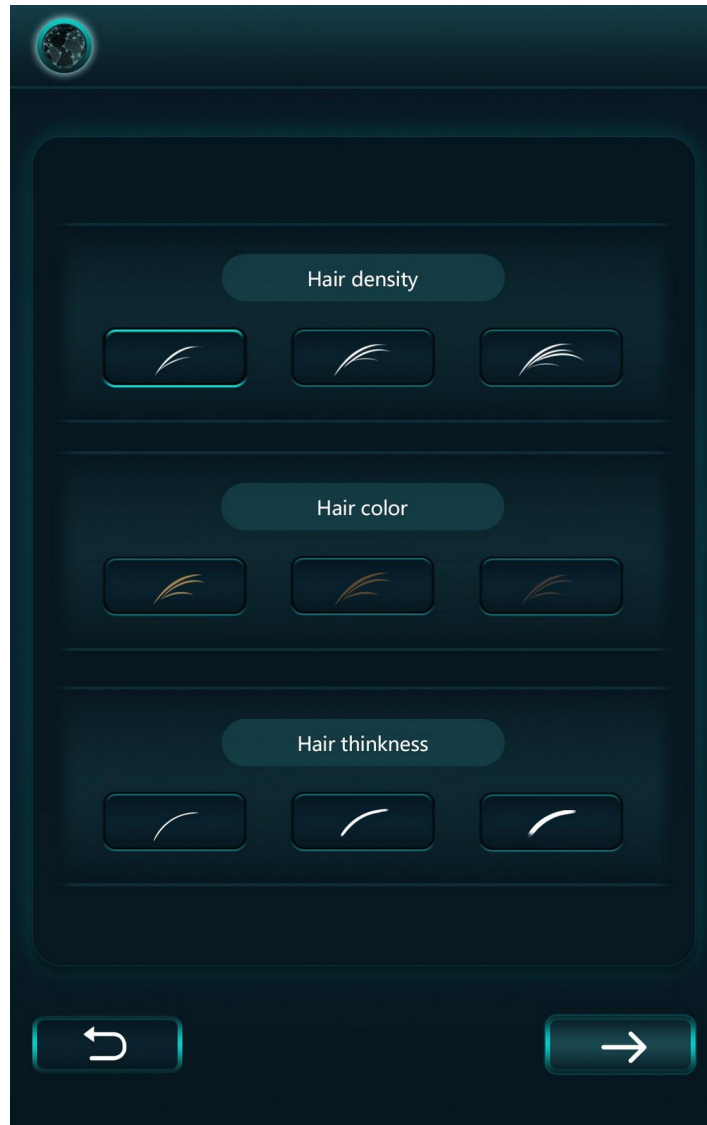

Figure 5.32
5) SHR Mode is for fast and painless hair removal treatment. The pulse repetition rate can be selected from 2 Hz to 15 Hz. The preset treatment protocol makes the hair removal procedure easy. You only need to adjust the energy and cooling levels to meet the exact requirement (see Figures 5.32 and 5.33).